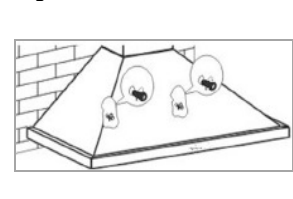

Fig. 7
- Pull up the inner shaft and fix the shaft cover to the side with the bracket (02) using the screws 2x ST4\*8 (**Fig. 7**).